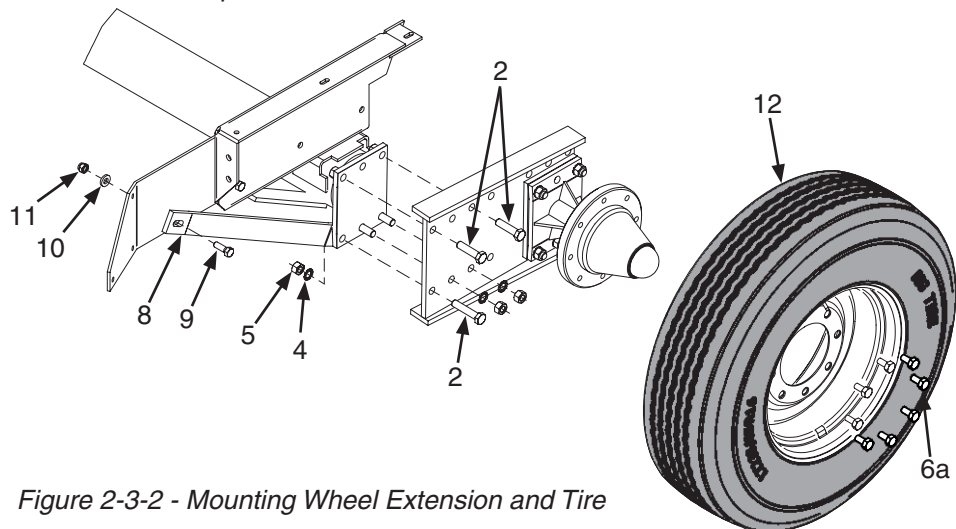

Figure 2-3-2 - Mounting Wheel Extension and Tire
B. (See Figure 2-3-2) Place the Wheel Extension on to the axle as shown, securing with the Item 2 bolts. Place (1) Item 8 RH Brace as shown. Torque all nuts and bolts as per torque chart on page 2-3-1.